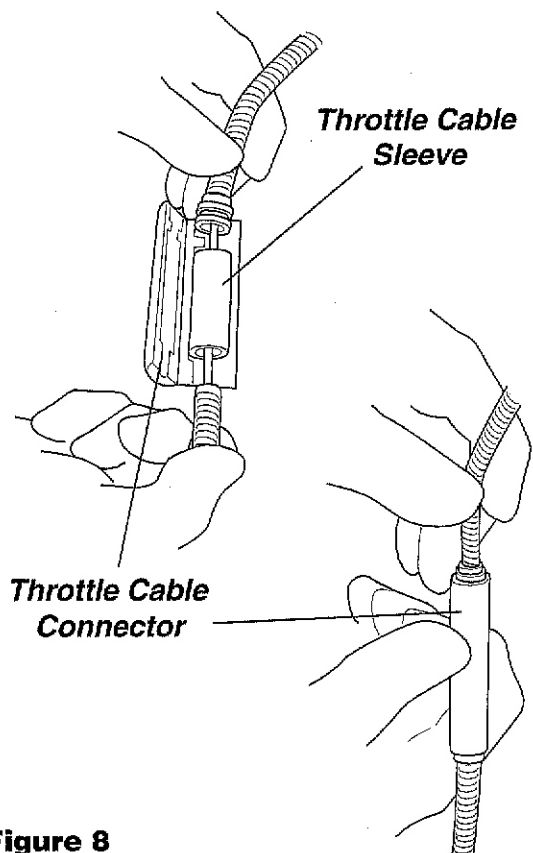

Figure 8
4. Center the throttle cable sleeve over the connected cable ends and place the assembly in the throttle cable connector. See Figure 8.
5. Using hand pressure, close the throttle cable connector. See Figure 8.